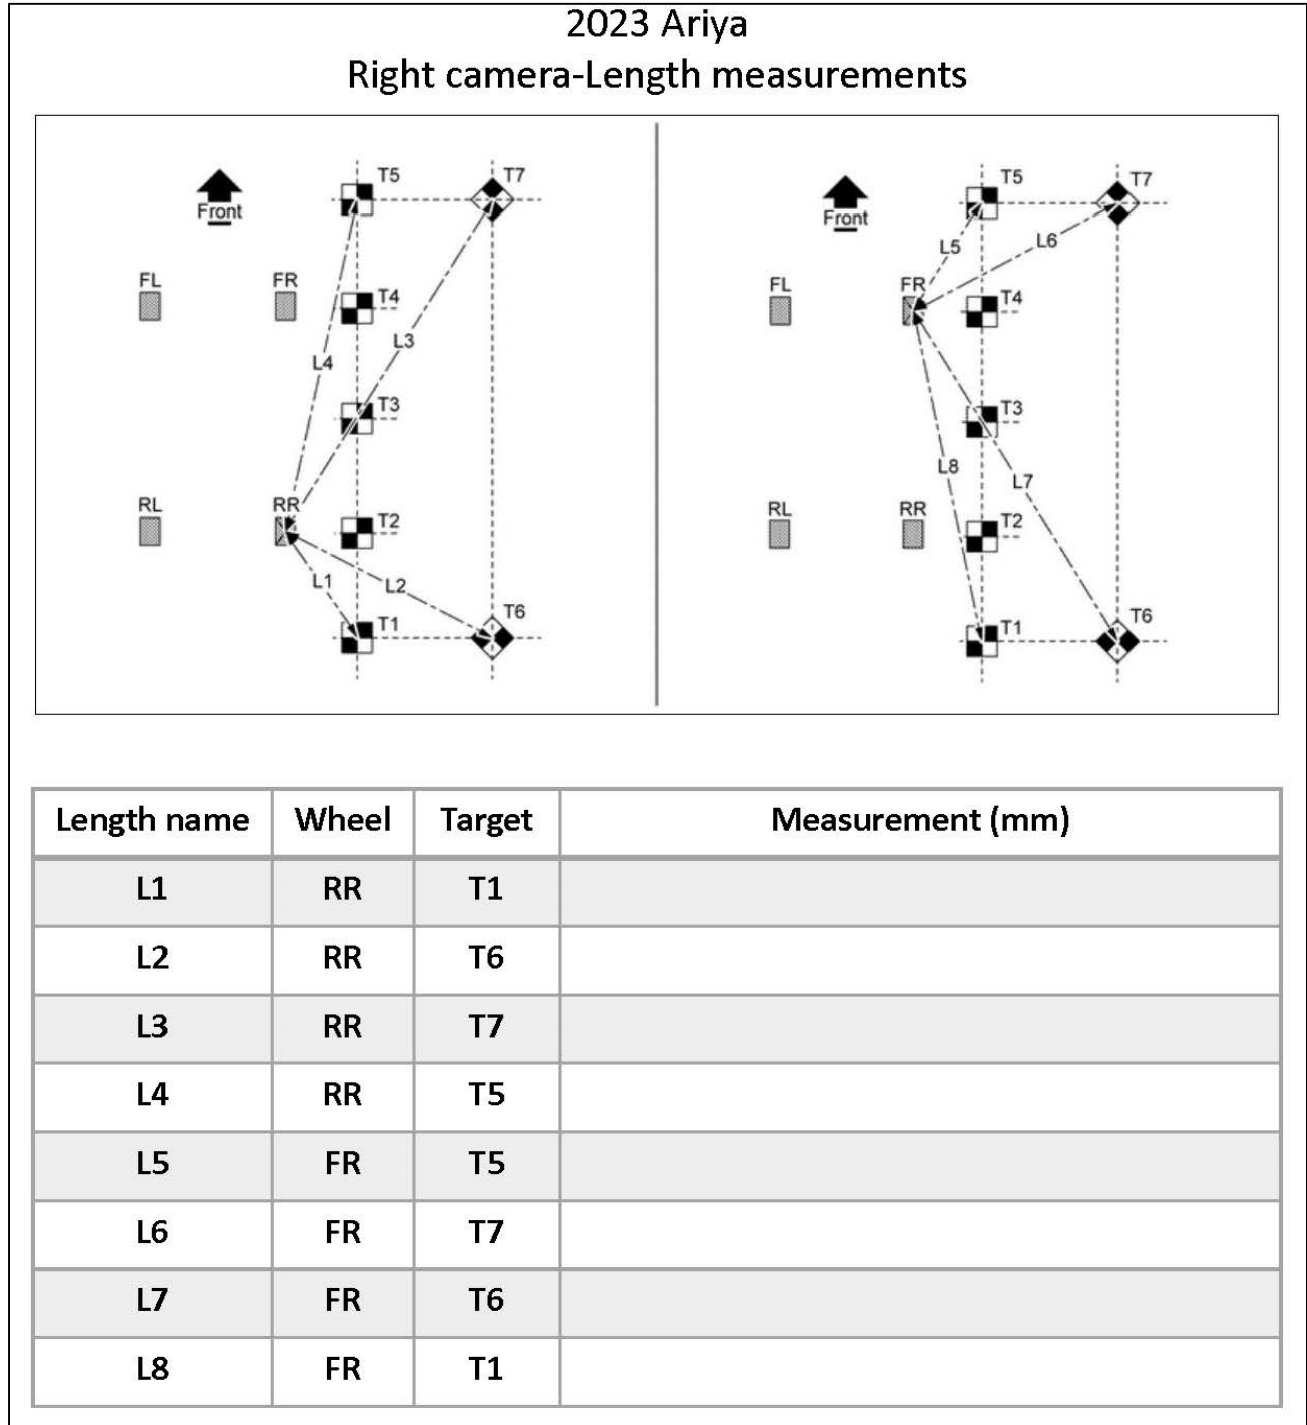

Figure 53
38. Measure the distance between the wheel center point and the center of the calibration targets T1, T6, T7, and T5, as shown in Figure 53 below.
IMPORTANT: All measurements must be in millimeters (mm). Refer to the illustrations in Figure 53 to ensure the correct measurement is documented in the correct order and for each calibration target.